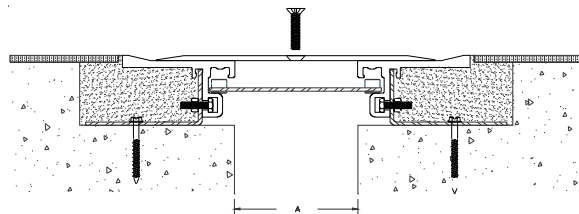

Figure 8
**STEP 13.** Place the cover plate in position over the joint, and insert the centering bar screws through the anchor holes in the cover plate and into the anchor holes in the centering bars, see Figure 8.